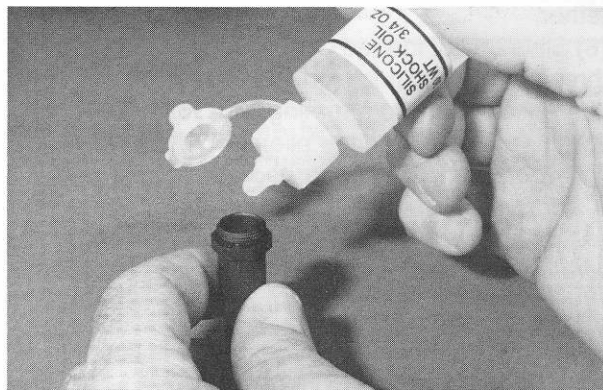
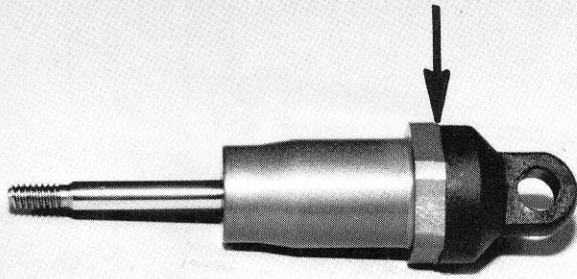

Fig. 124
Fig. 125
□ **Figs. 124 & 125** (1) Now we are going to fill each shock with shock oil. Take your container of silicone 30 weight shock oil and fill a rear shock with oil until it is within 1/16" of the top of the shock body, and fill your front ones all the way to the top. (2) Now move the shock shaft up and down, slowly, several times, to make sure that there are no air bubbles trapped under the piston. (3) If there were air bubbles, refill the shock until it is within 1/16" of the top. (4) Now push the shock shaft up until the piston is close to the top of the shock body, but still completely covered by the oil. (5) Now thread your #6439 black aluminum shock cap (they are in bags #6-9 and #6-10) onto the shock body. There should be no gap between the cap and the hex portion of the shock body (see arrow in fig. 125). The O-ring will actually be doing the sealing, so as soon as the cap comes in contact with the body, just turn it a little bit further to seat it. (6) Now work the shock shaft up and down several times and then press the shaft all the way in and let go of the shaft. The shaft should come back out of the shock about 1/4" on its own. This is the correct amount of rebound. But you should be able to compress it all the way back in easily. (7) If it comes out more than 1/4", the piston was too far down in the shock body at step (4). If it does not come out enough, then the piston was too close to the top of the shock body. (8) Do the other three shocks.